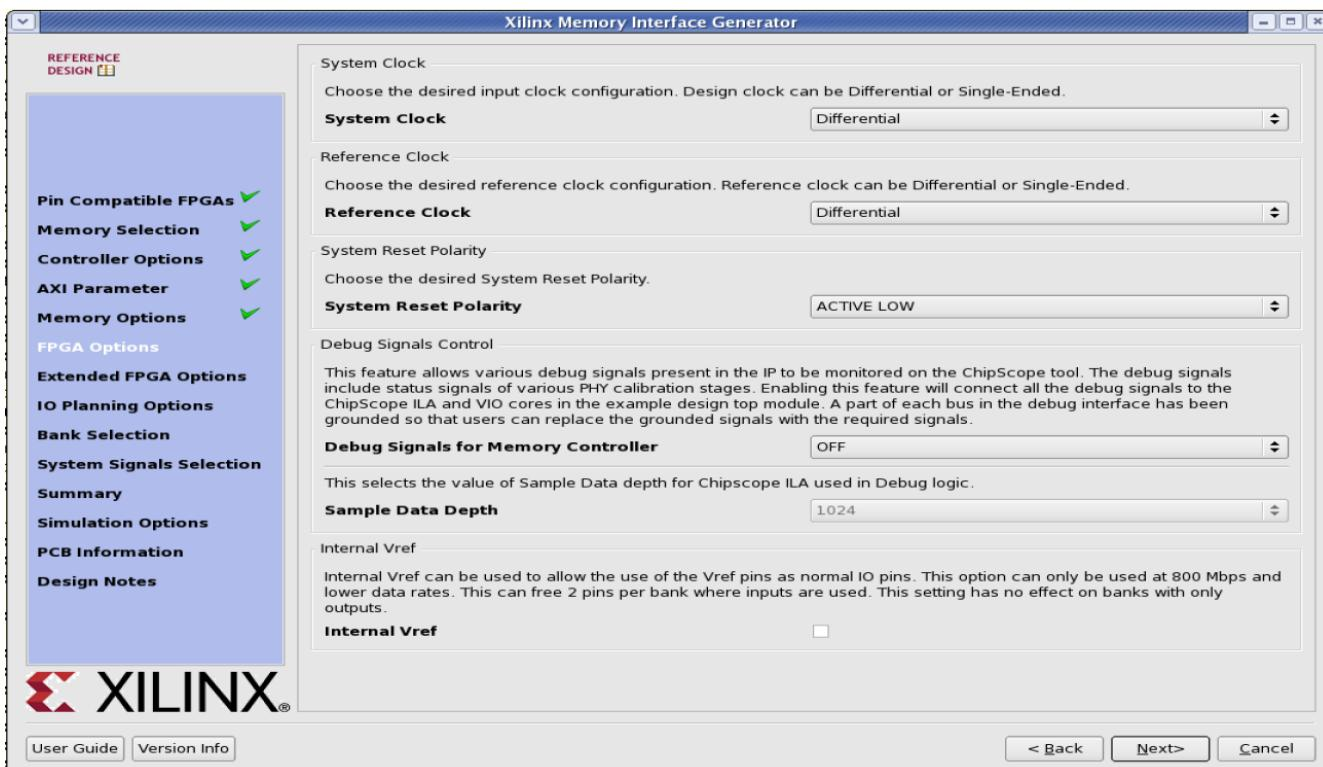

Figure 2-21: **FPGA Options Page**
Figure 2-21 shows the **FPGA Options** page.
- **sys\_clk** – This is the system clock input for the memory interface and is typically connected to a low-jitter external clock source. Either a single input or a differential pair can be selected based on the **System Clock** selection in the **FPGA Options** page (Figure 2-21). The sys\_clk input must be in the same column as the memory interface. If this pin is connected in the same banks as the memory interface, the MIG tool selects an I/O standard compatible with the interface, such as DIFF\_HSTL\_I or HSTL\_I. If sys\_clk is not connected in a memory interface bank, the MIG tool selects an appropriate standard such as LVCMOS18 or LVDS. The XDC can be modified as desired after generation.
- **clk\_ref** – This is the reference frequency input for the IDELAY control. This is a 200 MHz input. The clk\_ref input can be generated internally or connected to an external source. A single input or a differential pair can be selected based on the **System Clock** selection in the **FPGA Options** page (Figure 2-21). The I/O standard is selected in a similar way as sys\_clk above.
- **sys\_rst** – This is the asynchronous system reset input that can be generated internally or driven from a pin. The MIG tool selects an appropriate I/O standard for the input such as LVCMOS18 and LVCMOS25 for HP and HR banks, respectively. The default polarity of sys\_rst pin is active-Low. The polarity of sys\_rst pin varies based on the **System Reset Polarity** option chosen in **FPGA Options** page (Figure 2-21).